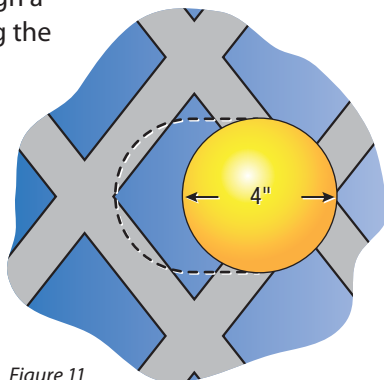

Figure 11
4. **Openings in the barrier** should not allow passage of a 4-inch diameter sphere (figure 11).